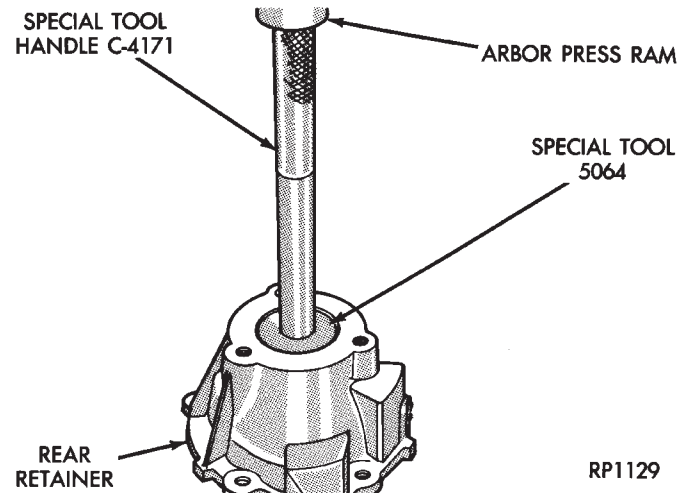

Fig. 62 Installing Mainshaft Rear Bearing In Rear Retainer
(49) Install and tighten front case-to-rear case attaching bolts to 41 N·m (30 ft. lbs.) torque. **Be sure to install a washer under each bolt used at case dowel locations.**
(50) Install mainshaft rear bearing in rear retainer (Fig. 62). Tap old bearing out of retainer with hammer and brass drift. Then install new bearing with Tool Handle C-4171 and Installer 5064.